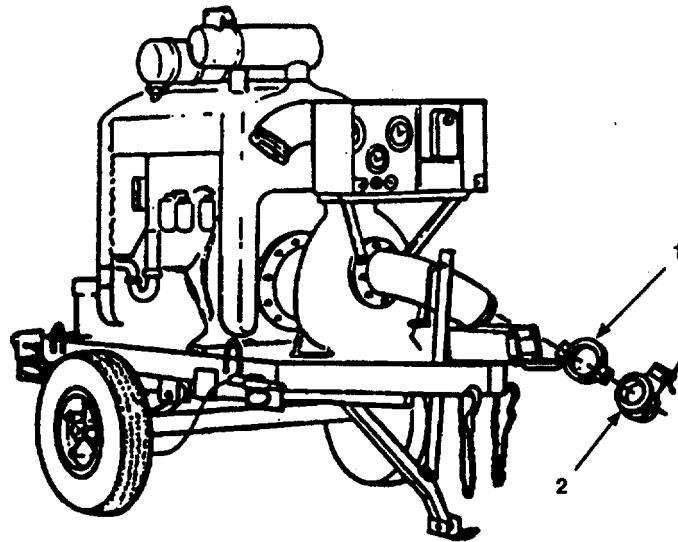
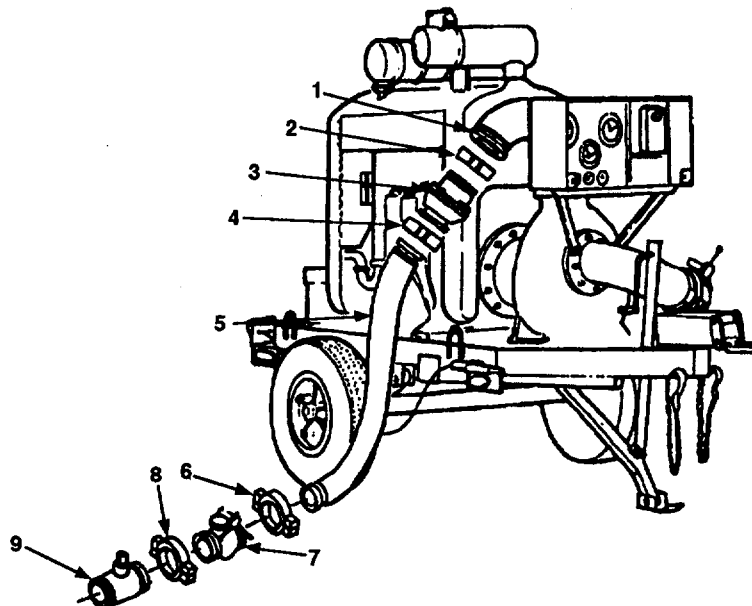
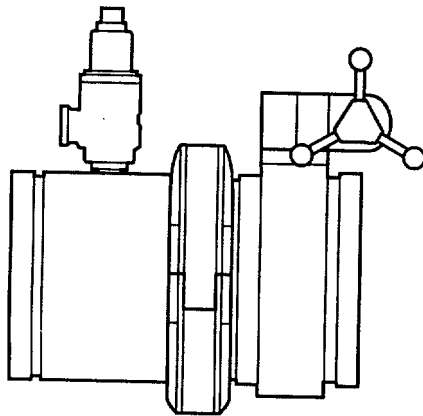

Figure 2-14. Lead Pumping Station Suction Port and Butterfly Valve Assembly. (Model 609-A shown)
Figure 2-15. Lead Pumping Station Discharge Port and TWDS Components Assembly.
Figure 2-16. Pressure Relief Valve Installation.
- a. Ensure plastic cap has been removed from suction port (Figure 2-14, 1) on 600 gpm pumping assembly, reference applicable technical manual for suction port location on 600 gpm pumping assemblies not shown. If plastic cap has not been removed, remove cap and retain for movement or storage.
- b. Install 6 inch butterfly valve (2) on suction port (1) with grooved-end pipe quick disconnect coupling clamp (3) (para 2.3.3.2).
- c. Remove plastic cap from discharge port (Figure 2-15, 1) on 600 gpm pumping assembly, reference applicable technical manual for discharge port location on 600 gpm pumping assemblies not shown. If plastic cap has not been removed, remove it and retain for use later.
Personal injury may result from high pressure water if pressure relieve valve faces butterfly valve. Ensure pressure relief valve is installed as shown in figure 2-16 to avoid personal injury.
- g. Install 6 inch pressure relief valve (Figure 2-15, 9) on end of butterfly valve (7), as shown in figure 2-16 with grooved-end pipe quick disconnect coupling clamp (8) (para 2.3.3.2).
- h. Set butterfly valves attached to suction port (Figure 2-14, 2) and discharge hose assembly (Figure 2-15, 7) to fully open position.